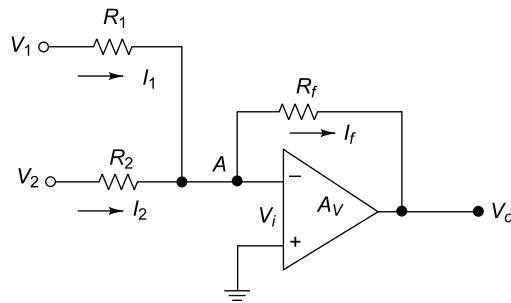

Fig. 5.100
6. When $R_l = R_2 = R_f = R$, the output voltage of OP-AMP circuit as shown in Fig. 5.100 is